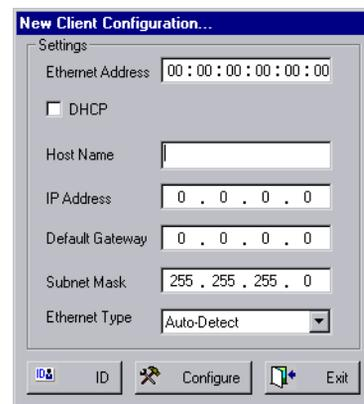

Figure 2-8 Configuration
2. Complete the dialog box shown in Figure 2-8.